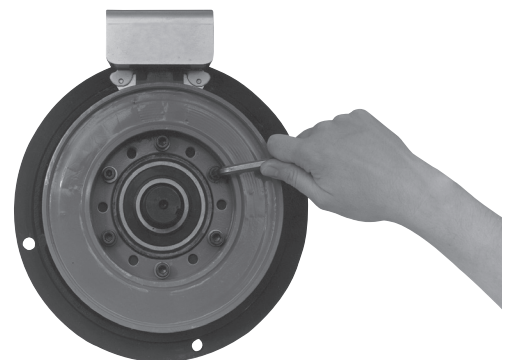

Figure 3
3. Once the mounting surface has been prepared, the magnet is bolted in place with capscrews and lockwashers. (Figure 3)